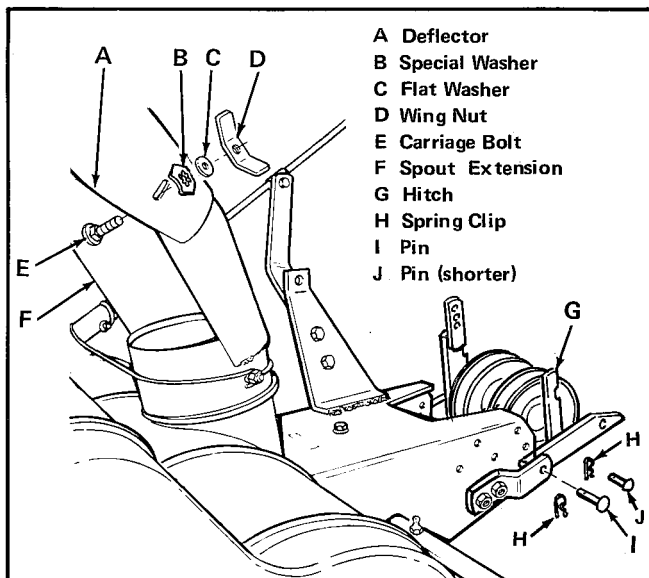

Figure 17. Installing Deflector and Hitch
- Attach deflector (item A, figure 17) to spout extension (item F). Use the two carriage bolts, special hex lockwashers, flat washers, and wing nuts (items B through D) to hold deflector.
- Install hitch (item G, figure 17) to frame clips as shown with two 3/8 x 2 inch (9.5 x 51 mm) pins (item I) and spring clips (item H).